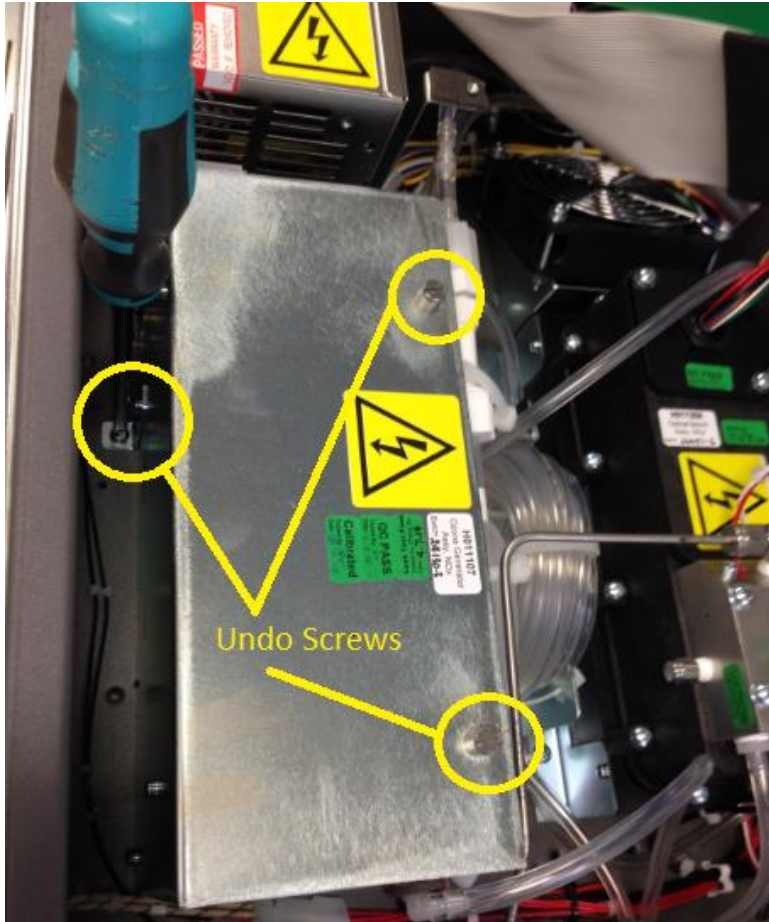

Figure 64 – Remove Ozone Generator from Instrument
3. Undo the 3 screws (refer to Figure 64) and lift the complete assembly from the instrument while at the same time disconnecting the assemblies power connector underneath from the main loom as you go.